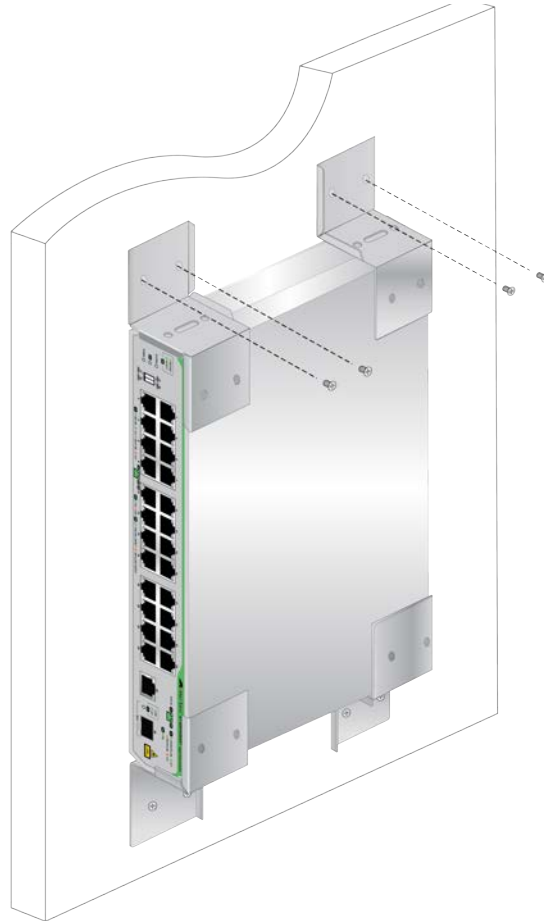

Figure 29. Securing the Top Brackets to the Wall
13. Place the two brackets back on the top of the switch and drive screws through the holes to attach the brackets on the wall. See Figure 29.